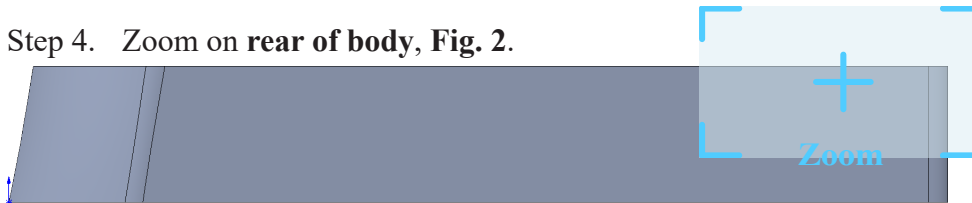

Fig. 2
Step 4. Zoom on rear of body, **Fig. 2**.